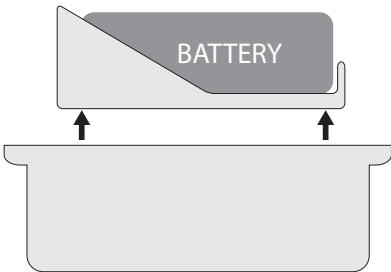

Fig. No. 5
6. Insert the battery holder into EBU1 housing (see Fig. No. 5).